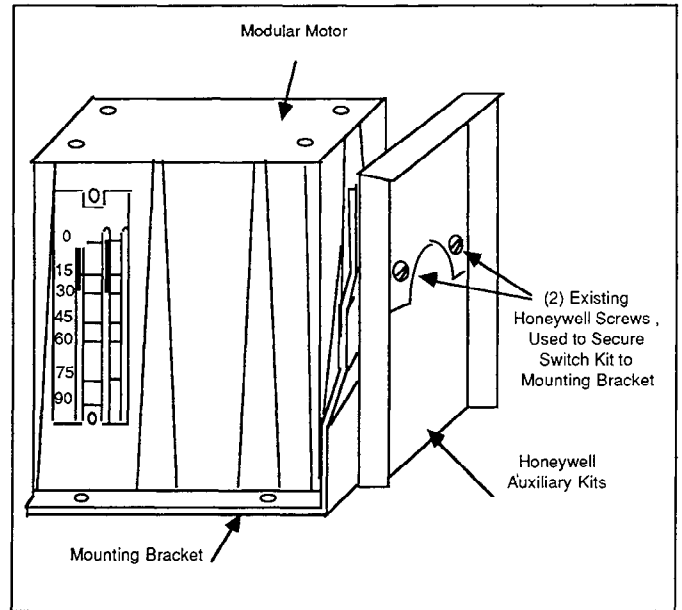

Figure 1. Mounting Auxiliary Kits to Modular Motor
1. Slide the formed side of the bracket onto the motor shaft and secure the motor base to the straight side of the bracket with the 1/4"-20 X 7/8" hexhead bolts provided. (Refer to Figure 1)
WHEN MOUNTING MM MOTOR TO HONEYWELL Q601E LINKAGE (See Figure 1).